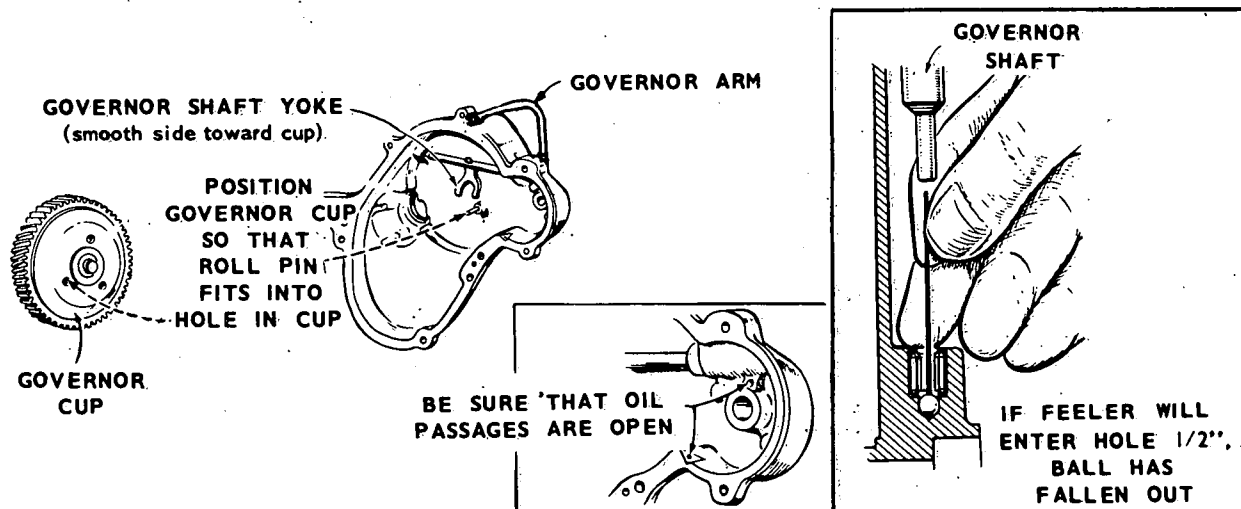

FIGURE 45. GEAR COVER ASSEMBLY
1. Work the governor shaft to check for binding and see that the governor shaft end thrust ball is in place (Figure 45). Later models have larger ball which will not fall out.
3. Turn the governor cup so the stop pin in the gear cover will fit into one of the holes in the cup surface (Figure 45). Measure the distance from the end of the stop pin to the mounting face of the cover. It should be $25/32$ -inch. If it is not, replace the pin. Pin should be positioned with open end facing crankshaft seal.